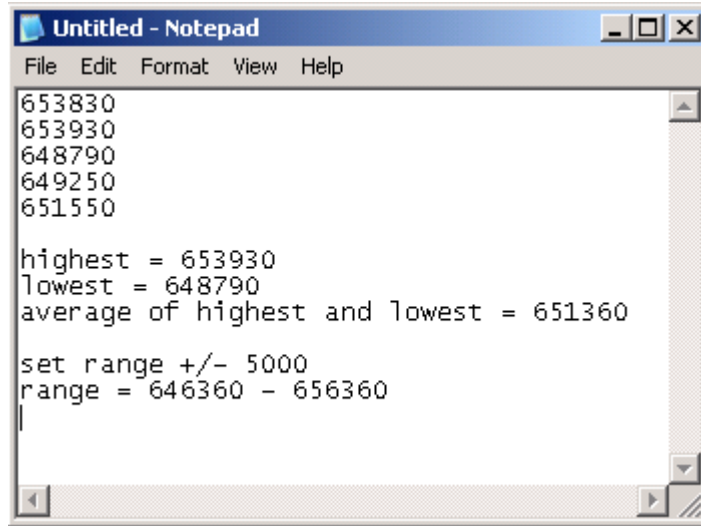

Figure 87 Record the average focal value in Notepad.
9. Repeat steps 4 to 8 for the top right, bottom left, bottom right, and center of the slide. The range of these values should not exceed 5000 units. Calculate the average value of the highest and lowest spots and record this value in Notepad (see Figure 87 on page 113).